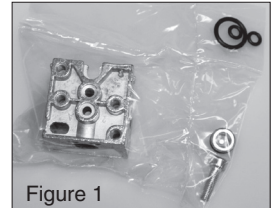

Figure 1
Kit includes the following: Valve-to-Base O-rings, quantity (2), Sub-Base to Sub-Base O-ring, quantity (1), Sub-Base to Sub-Base fastening screw, quantity (1), Pipe Plug, quantity (1), see figure 1.